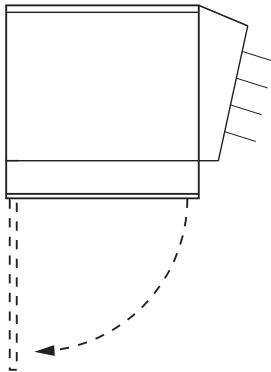

Figure 4
2. All wiring connections are made inside the control box at the bottom of the heater. To open control box, loosen screws holding the hinged cover at front (if cover is slotted) or remove screw(s) (if cover is unslotted) and open cover (Figure 4).